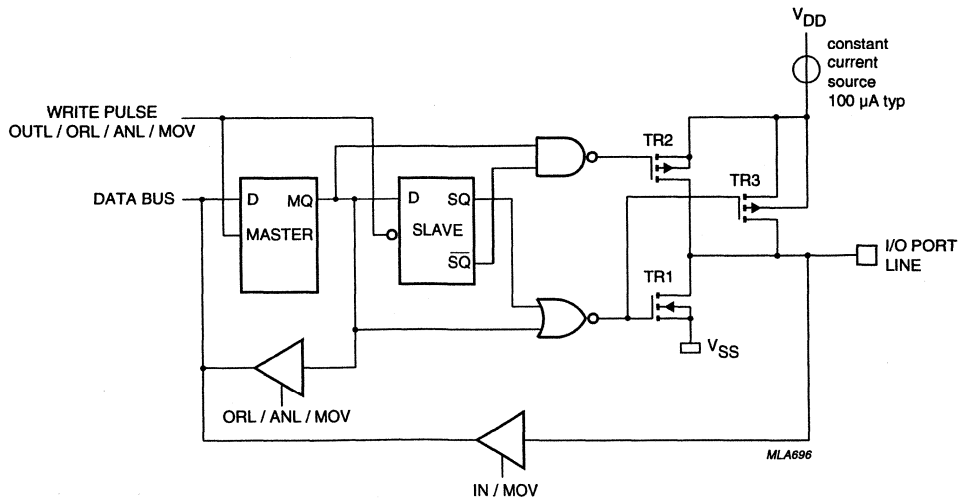

Fig.11 Standard output with switched current source.
The standard port configuration is illustrated in Fig.11. When a logic 0 is written to the master/slave flip-flop, TR2 and TR3 are both in the OFF condition. TR1 turns ON and drives the output to  $V_{SS}$ .
- Option 1 Standard Port; quasi-bidirectional I/O with switched pull-up current source of 100  $\mu$ A (typ.) and p-channel booster transistor TR2. TR2 is only active for 1 clock cycle during LOW-to-HIGH transitions (see Fig.11).